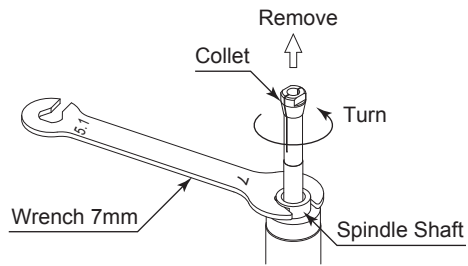

Fig. 4
- ② Place the provided 7mm wrench on the spindle shaft, and turn the top of the collet counterclockwise to remove the collet. (Fig. 4.)
- ③ Install the new collet into the Spindle by turning it clockwise.